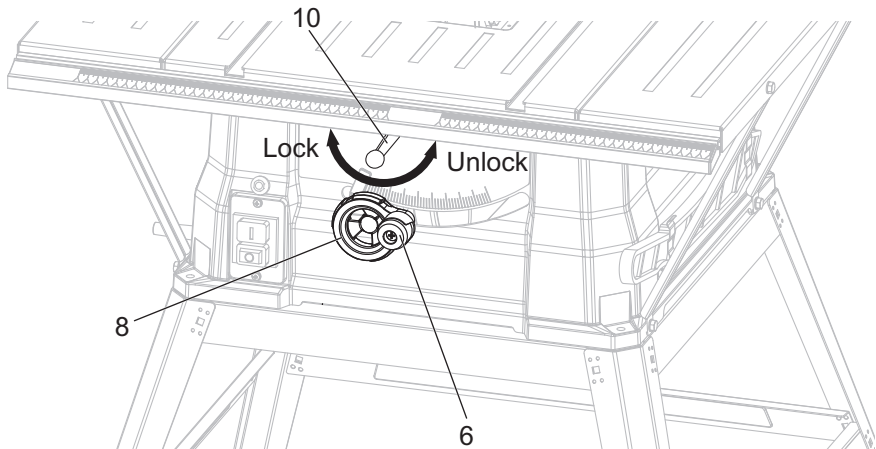

Fig. 25
- > The bevel locking handle [10] locks the blade in the desired tilting angle. To loosen turn it anti-clockwise. When setting the angle of the cut fully loosen it. Before turning the table saw ON, be sure it is securely tightened so that the blade will not shift during the table saw operation. (See Fig. 25)
- > The saw blade can be adjusted easily between 0° and 45°. The bevel adjusting handwheel [8] is used to tilt the blade for bevel cutting. Loosen the bevel locking handle [10], then slide the bevel adjusting handwheel to the right to tilt the blade to the left and slide it to the left to tilt the blade to the right. (See Fig. 25).
- > The height adjusting handle [6] is used to raise and lower the blade. Turn clockwise to lower the blade and anticlockwise to raise it. (Fig. 25)